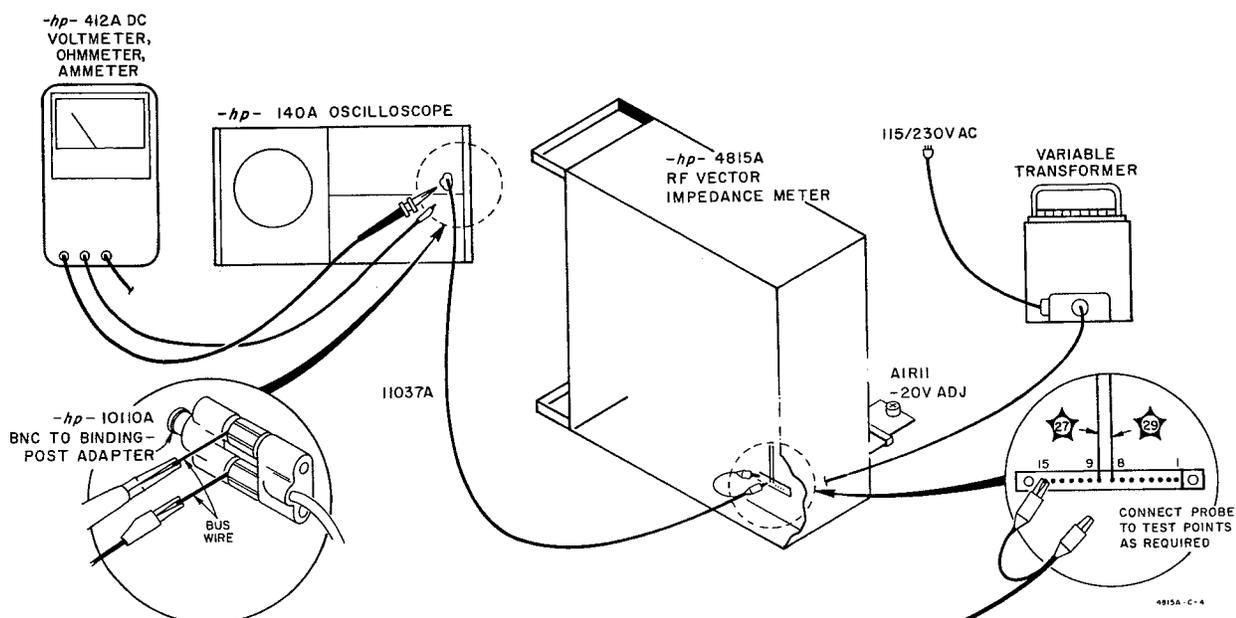

Figure 5-5. Setup for Power Supply Check
- a. Remove top and bottom cover plates. Rest 4815A on left side and make connections as shown in Figure 5-5.
- c. Connect DC Voltmeter and Oscilloscope to -20 V  $\star$  XA1 (9).
- g. Connect DC Voltmeter and Oscilloscope to  $\star$  XA1 (8).